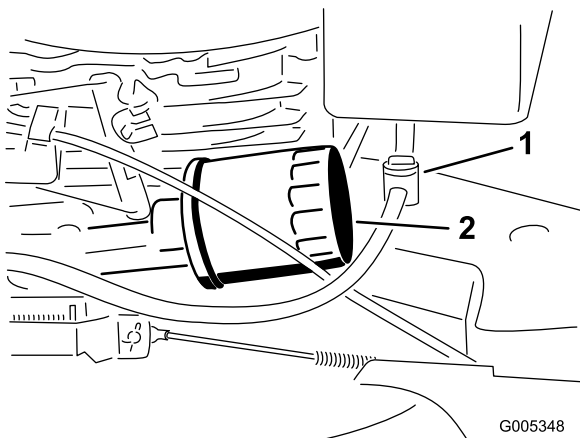

Figure 25
7. Remove the oil filter (Figure 25).
3. Close the fuel valve (Figure 25).